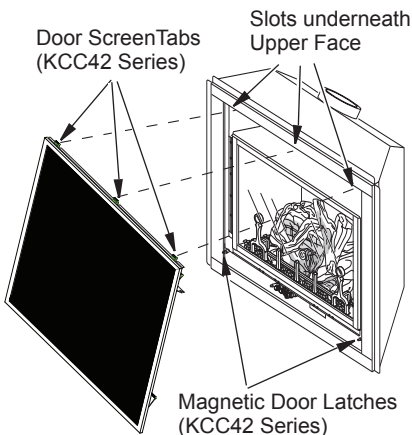

Figure 40 - Removing/Replacing Screen Door Assembly (KCC42 Series)
8. Replace screen door assembly, see removing screen door assembly, see Figure 40 (KCC42 series).